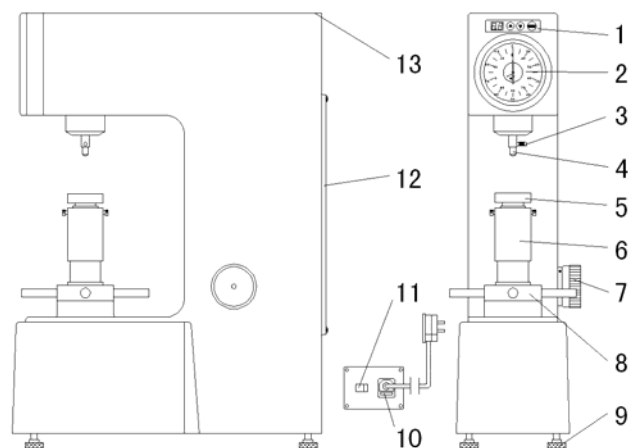

Fig. 2
4.3 The placement of the hardness tester (Fig.2)